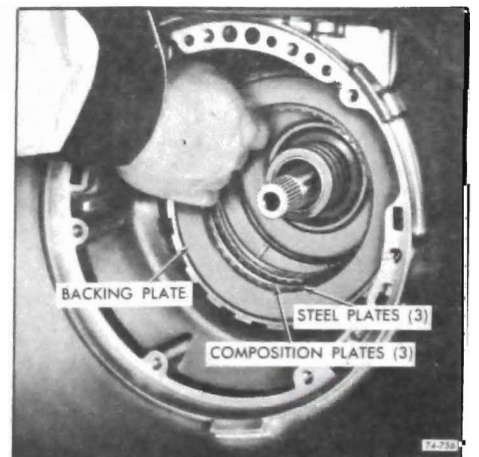

Figure 76-551
13. Remove intermediate clutch backing plate, 3 composition and 3 steel clutch plates. See Figure 76-551.